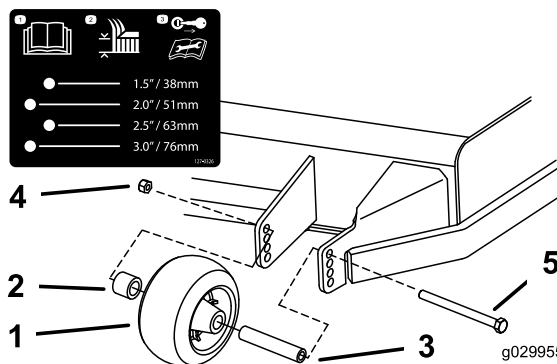

Figure 27
3. Adjust the anti-scalp rollers as shown in Figure 27.